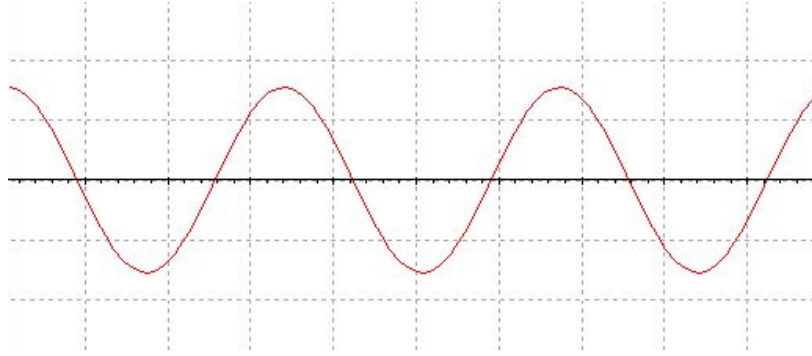

Figure 1-1
1. First, the ac voltage coming from the outlet has to be reduced. Outlets are typically expected to have 110 volts rms with a frequency 60 Hz. Set the contact voltage regulator to 110V and measure the wave coming across it. Figure 1-1 shows the ac voltage wave across the contact voltage regulator which is simulating the outlet voltage with 100 volts per division and 5 ms per division.
Based on Figure 1-1 and 1-2, the step down transformer reduced the outlet voltage thus supplying a circuit with a manageable voltage that won't damage the components.